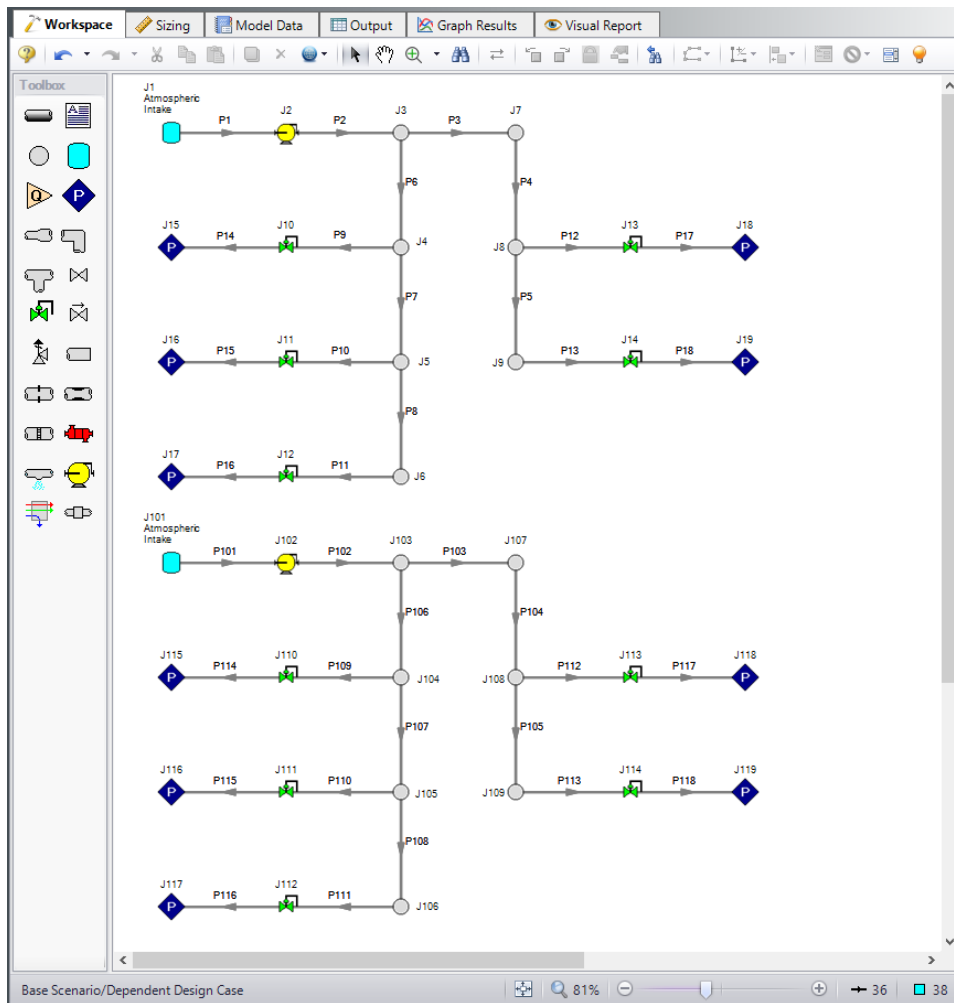

Figure 4: Workspace with the Dependent Design Case created for the Air Distribution model
7. Click OK and move the duplicated version of the primary design case to an open area in the Workspace. The model should now appear similar to Figure 4.
The dependent design case capability takes advantage of the ANS module's ability to run multiple models in the same Workspace. The pipes and junctions in Figure 4 that are numbered greater than 100 (i.e., the dependent design case) represent the same pipes and junctions as those numbered less than 100 (i.e., the primary design case). It is therefore critically important that only certain data in the dependent case is changed.